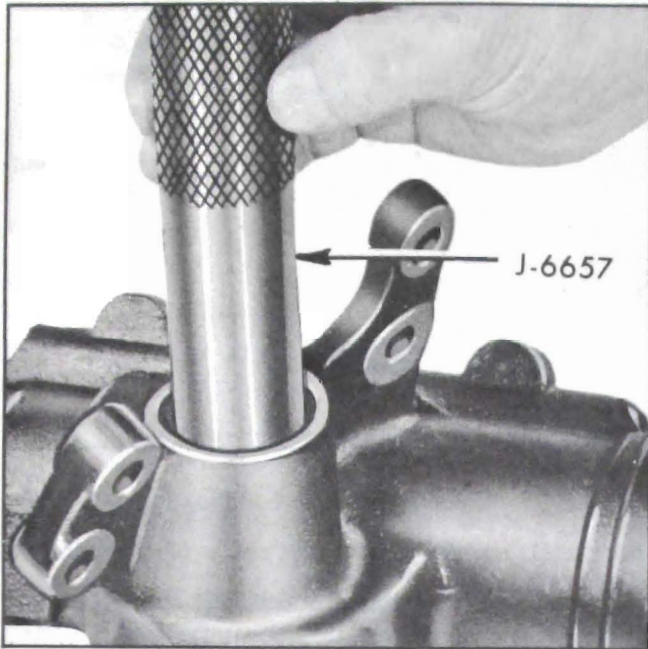

Figure 8-52—Removing Pitman Shaft Needle Bearing
2. Check the pitman shaft needle bearing for being worn, pitted or scored. If damaged, remove needle bearing from gear housing bore by driving from the seal bore side of housing using Tool J-6657. See Figure 8-52. Discard bearing.